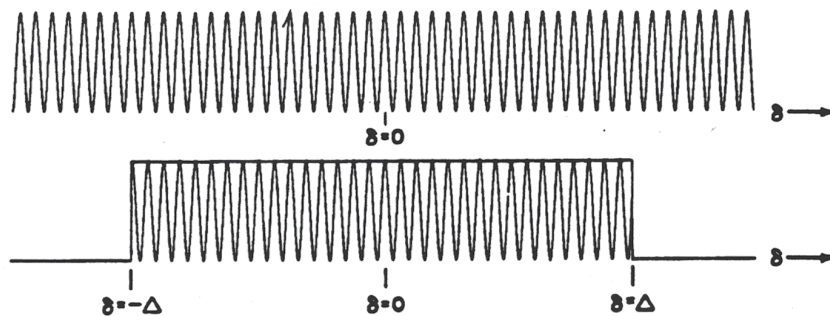

Figure 11. Boxcar Truncation on a monochromatic infinitely narrow line.
- **Apodization:** The mathematical form of the Fourier pair, equations (3) and (5), sets the integration limits to retardation values from  $-\infty$  to  $+\infty$ . However, integration is physically impossible because the moving mirror travels a finite distance from  $-\Delta \text{ cm}$  to  $+\Delta \text{ cm}$ , which is determined by the design of the mirror drive. Setting these limits is equivalent to truncating the interferogram, or setting it equal to zero for all values greater than  $\Delta$  and less than  $-\Delta$ . This is known in mathematics as convoluting the complete interferogram ( $-\infty < \delta < +\infty$ ) with a function that has the value 1.0 for  $(-\Delta < \delta < +\Delta)$  and zero for values of  $\delta$  outside these limits (Figure 11). Because of its rectangular shape, this function is called **boxcar** and the process is called boxcar truncation.